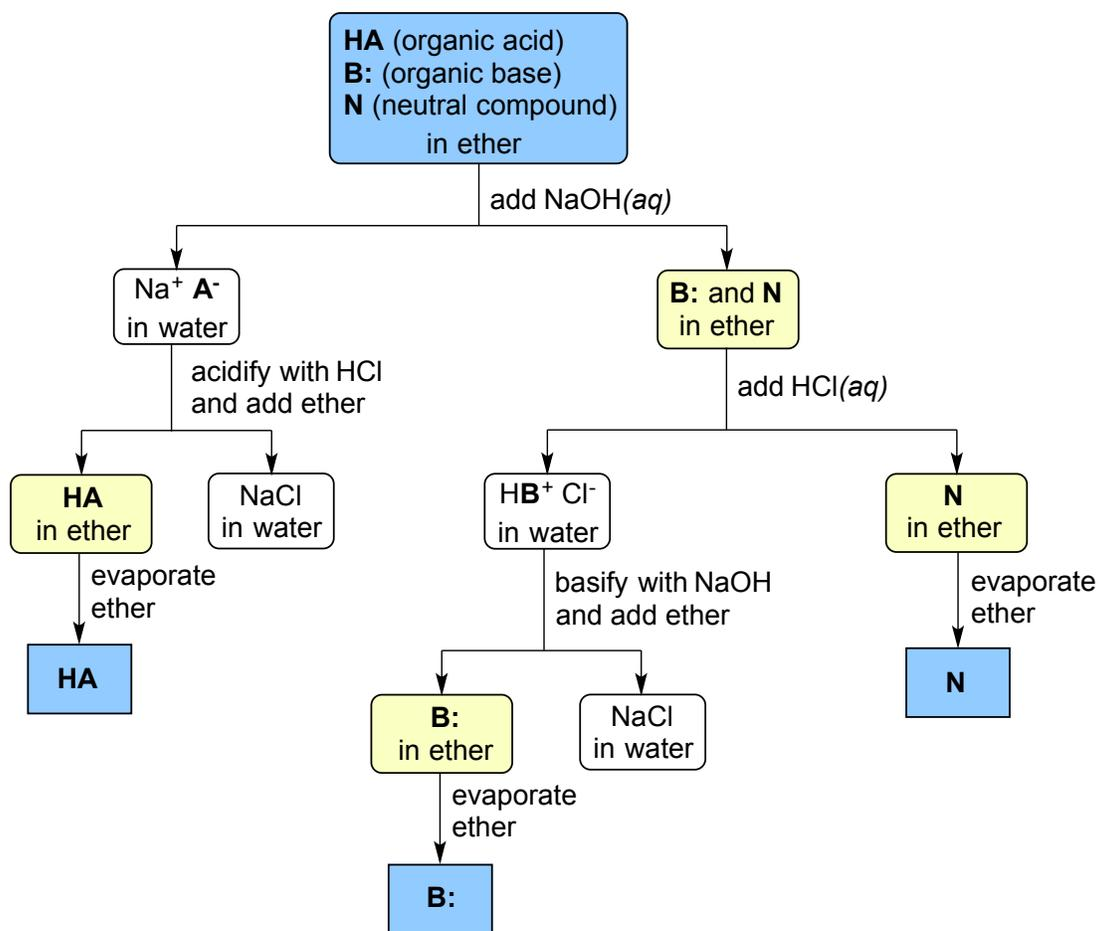

Figure 6. Extraction Flow Chart
Figure 6 details a full acid/base extraction flow chart that describes the separation of a mixture of an organic acid (HA), organic base (B^-) and a neutral organic molecule (N).
1. Draw a diagram similar to that in figure 6 detailing the separation of 1,2-dichlorobenzene, phenol ($pK_a = 10$), and pyridine by an extraction protocol.